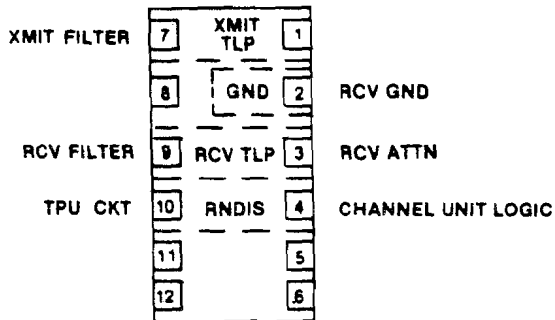
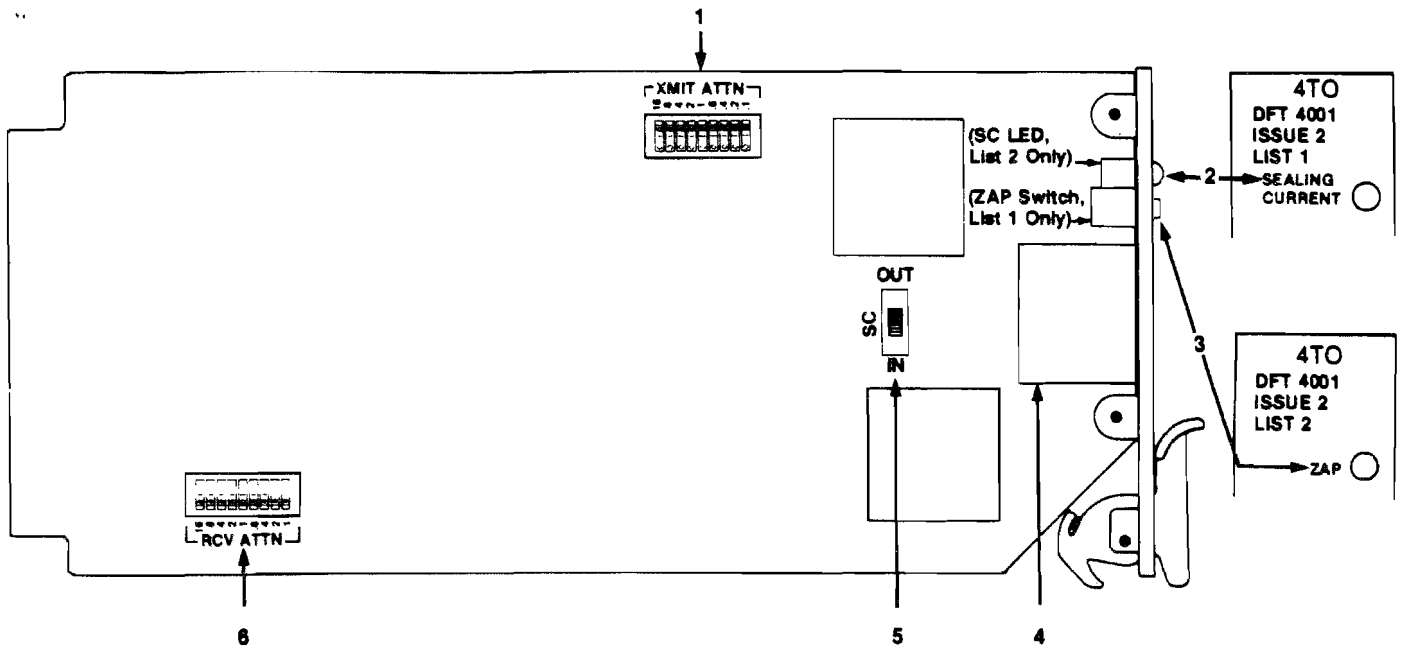

Figure 3—Test Connector
Figure 7—DFT 4001/2 Switch and Component Locations
5.06 The test connector (callout 4) provides splitting access to XMIT TLP, RCV TLP, and RNDIS. See Figure 3 for terminal assignments.
7.03 Table D lists all the options and controls needed to align the unit. The numbers in the FIG. 7 CALL-OUT column in Table D are provided to identify the options and controls shown in Figure 7. General switch information is given in part 10 of this bulletin.
7.04 The DFT 4001/2 is equipped with a test connector (Figure 7, callout 4) on the front panel of the unit. The test connector terminal assignments are given in Figure 3.
- 1) Locate the switch specified in the CLRC (see Figure 7 and Table D).